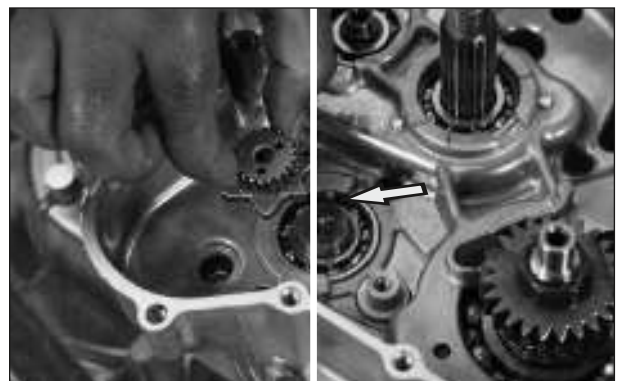

Fig. 3.130
- Now, insert 2 nos. Pin index star on the Cam gear shift. (Fig. 3.130)
- Assemble the index star on Cam gear shift by correctly locating the Pins Index star. (Fig. 3.130)